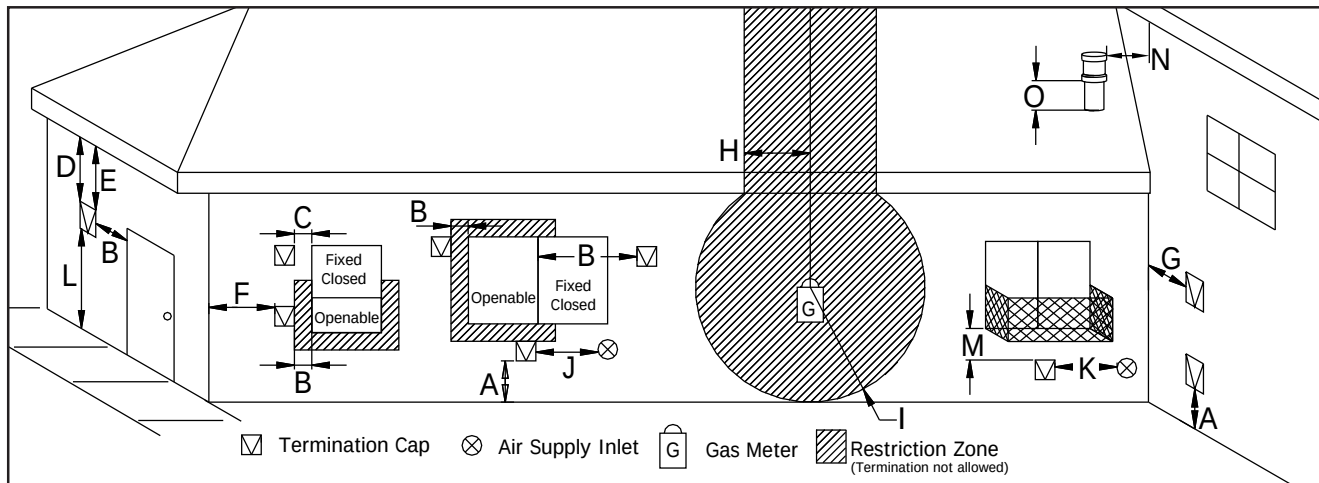
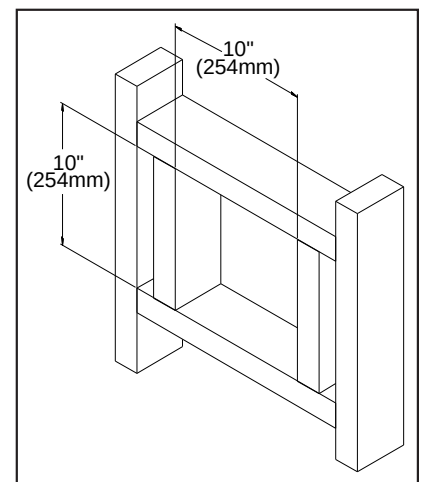

Figure 32: Vent Termination Restrictions, refer to Table 3.
Figure 38: Wall Framing Hole for Horizontal Installation.
Table 3: Vent termination clearances, refer to Figure 32.
3. With the pipe attached to the stove in the correct location, mark the wall for a 10" (25.4cm) x 10" (25.4 cm) square hole (refer to Figure 38). The center of the square hole should match the center line of the horizontal pipe. Cut and frame the 10" (25.4cm) x 10" (25.4cm) hole in the exterior wall where the vent will be terminated. Refer to Figure 32 and Table 3 for allowable locations. If the wall being penetrated is constructed of non-combustible material i.e. masonry or concrete, a 7" (17.8cm) hole is acceptable.